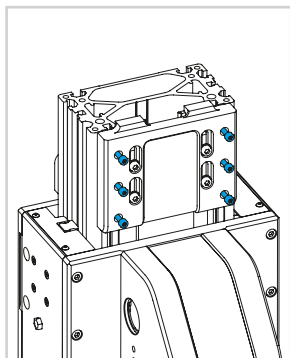
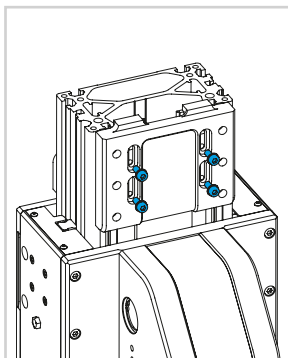
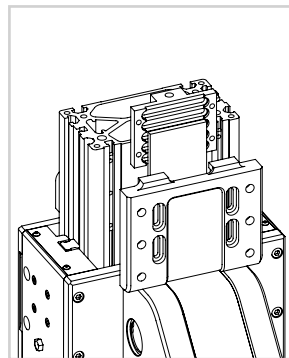

Fig. 5
Fig. 6
Fig. 7
- 4) Remove the screws of the belt clamp plate and separate it from the actuator (see Fig. 5, Fig. 6 and Fig. 7).